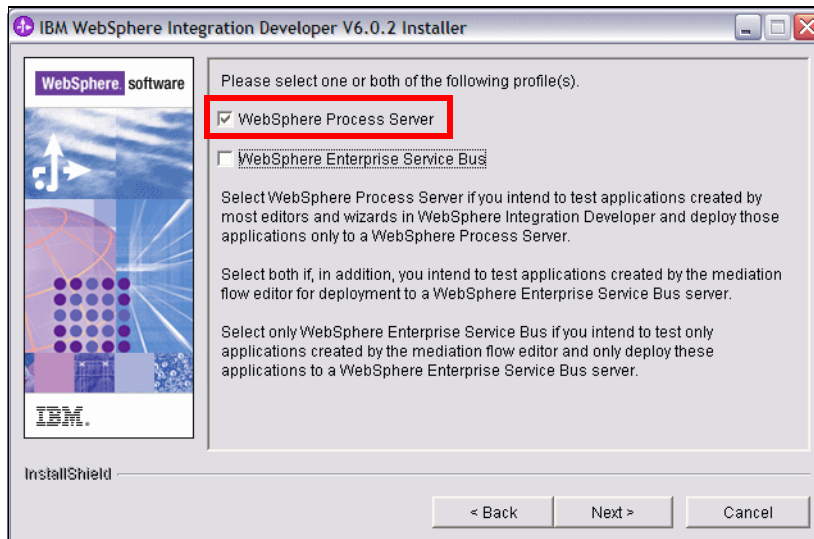

Figure A-4 Creating a profile for WebSphere Process Server
- ▶ Select the *WebSphere Process Server* profile (Figure A-4). For our scenario we do not require the WebSphere Enterprise Service Bus server.